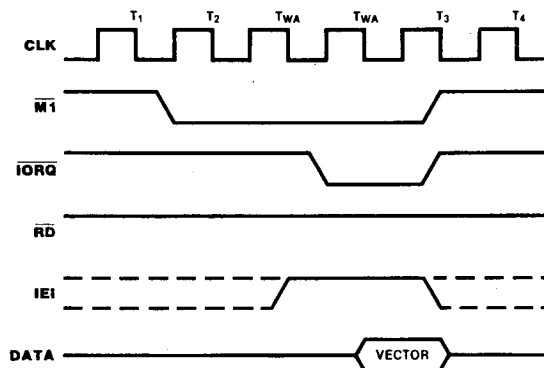

Figure 14. Interrupt Acknowledge Timing
**Interrupt Acknowledge Timing.** Figure 14 shows interrupt acknowledge timing. After an interrupt request, the Z80 CPU sends an interrupt acknowledge ( $\overline{M1}$  and  $\overline{IORQ}$ ). All channels are inhibited from changing their interrupt request status when  $\overline{M1}$  is active—about two clock cycles earlier than  $\overline{IORQ}$ .  $\overline{RD}$  is High to distinguish this cycle from an instruction fetch.